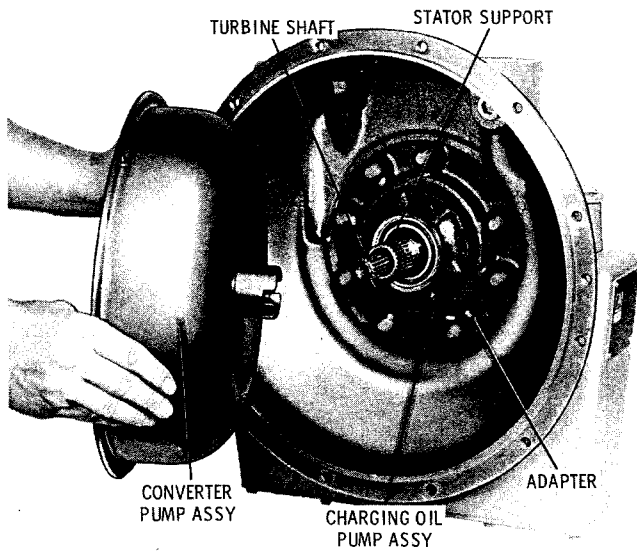

Fig. 7-1. Installing converter pump assembly (TC 200)
(1) Install the converter pump assembly (fig. 7-1). Index the slot in the pump hub with the tangs on the charging pump drive gear.
(2) Install converter pump thrust washer 19 (A, foldout 3) and snapping 12 into assemblies after S/N 31822. Install thrust washers 58 and 57, and snapping 12 into assemblies before S/N 31823.
(3) Install the stator assembly, as rebuilt in paragraph 6-3.